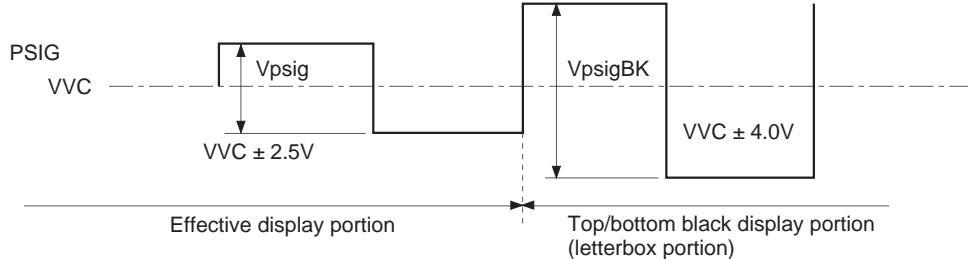

Fig. 2
- 2) During 16:9 display, input the same signal amplitude as in 1) above during the effective display portion, and input the black signal level V_{PSIGBK} during the top/bottom black input portion as shown in Fig. 2.